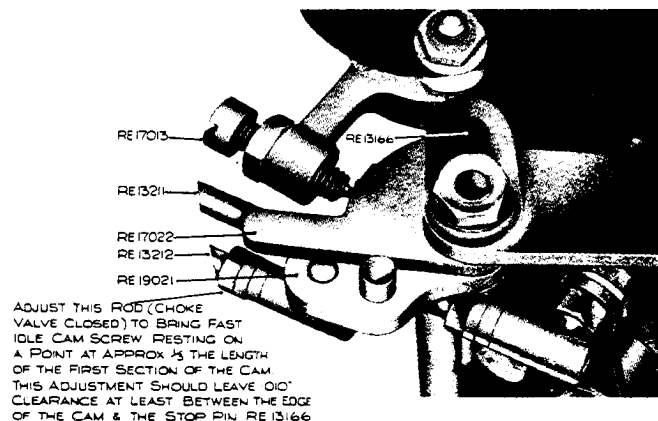

FIG. 7. SETTING THROTTLE STOP.
- (v) Fit the screw and locknut to the fast idle cam lever and with the screw nose resting on the high stop of the fast idle cam, adjust the screw (RE.17013) to give .030" clearance between the throttle stop and the throttle lug. (See Fig. 7).
- (vi) Adjust the rod from the fast idle cam link to the choke valve as shown in Fig. 7.
Similarly, should there be a foul between the new fast idle cam link and the fast idle cam stop, (RE.13166, Fig. 7), the cam stop may be filed on its outer end.